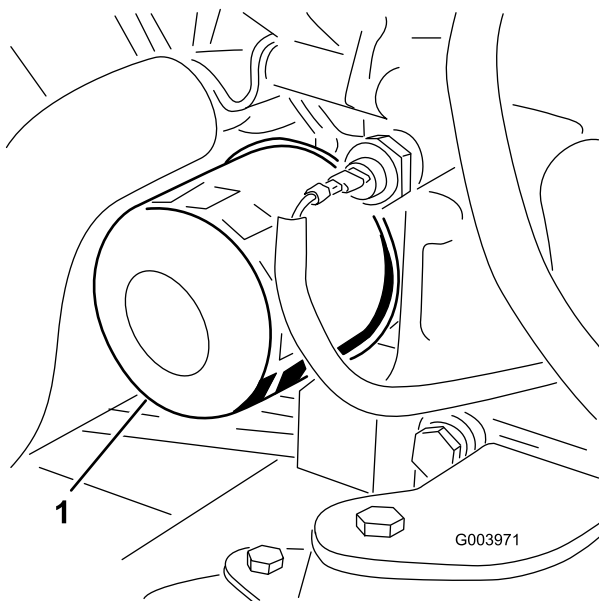

Figure 57
3. Remove the oil filter (Figure 57).